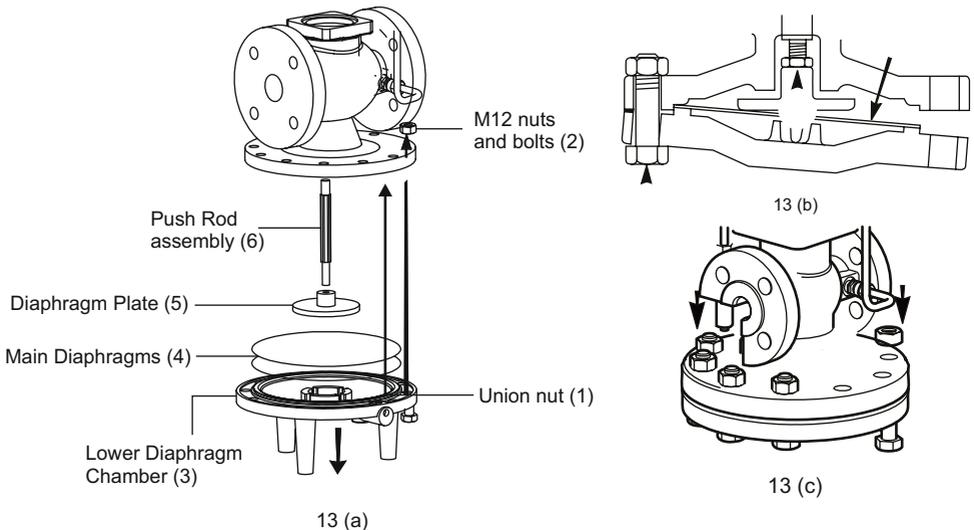

Figure 12 : Main Diaphragms
7.9. Procedure to renew or clean main diaphragms: (Refer to Figure 12)
For this section refer to figure 12